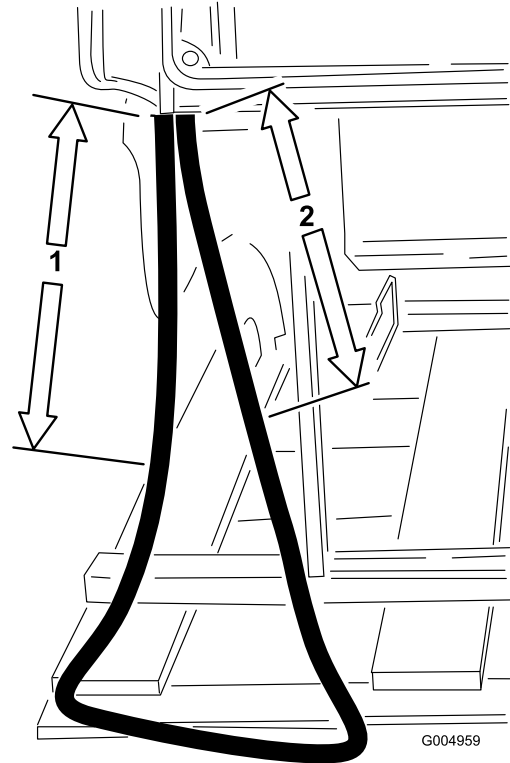

Figure 11
3. Measure down 43.1 cm (17 inches) from where the hose exits the frame, mark the hose and cut the hose at this location (Figure 11).
4. On the other end of the hose, measure down 50.8 cm (20 inches) from where the hose exits the frame, mark the hose and cut the hose at this location (Figure 11). This will be the return hose.